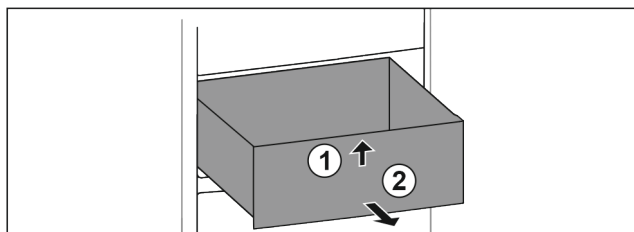

Fig. 64
- ▶ Lift drawer at the front. Fig. 64 (1)
- ▶ Remove drawer to the front. Fig. 64 (2)